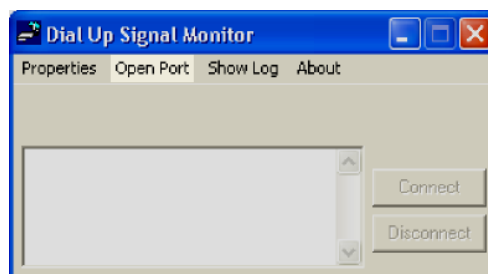

Figure 21. Dial Up Signal Monitor – Open Port Configuration
(3) Opening the COM Port.
- (a) Select Open Port from the Options menu (see Figure 21).